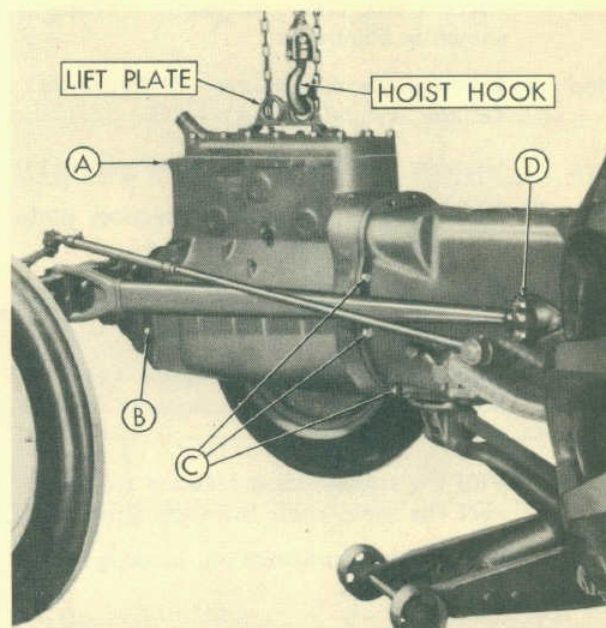

Fig. 10
- Step 2—Install the engine lift plate and attach a hoist as shown in Figure 10.
- Step 4—Disconnect the radius rods by removing the ball cap (D-Figure 10) from the right and left side.
- Step 6—Remove the bolts (B-Figure 10) that hold the front axle support plate to the pan. There are six of them.
- Step 8—Remove the two water pump studs (A-Figure 10). (Left side and bottom.)
- Step 9—Remove the capscrews (C-Figure 10) that hold the engine to the transmission housing.